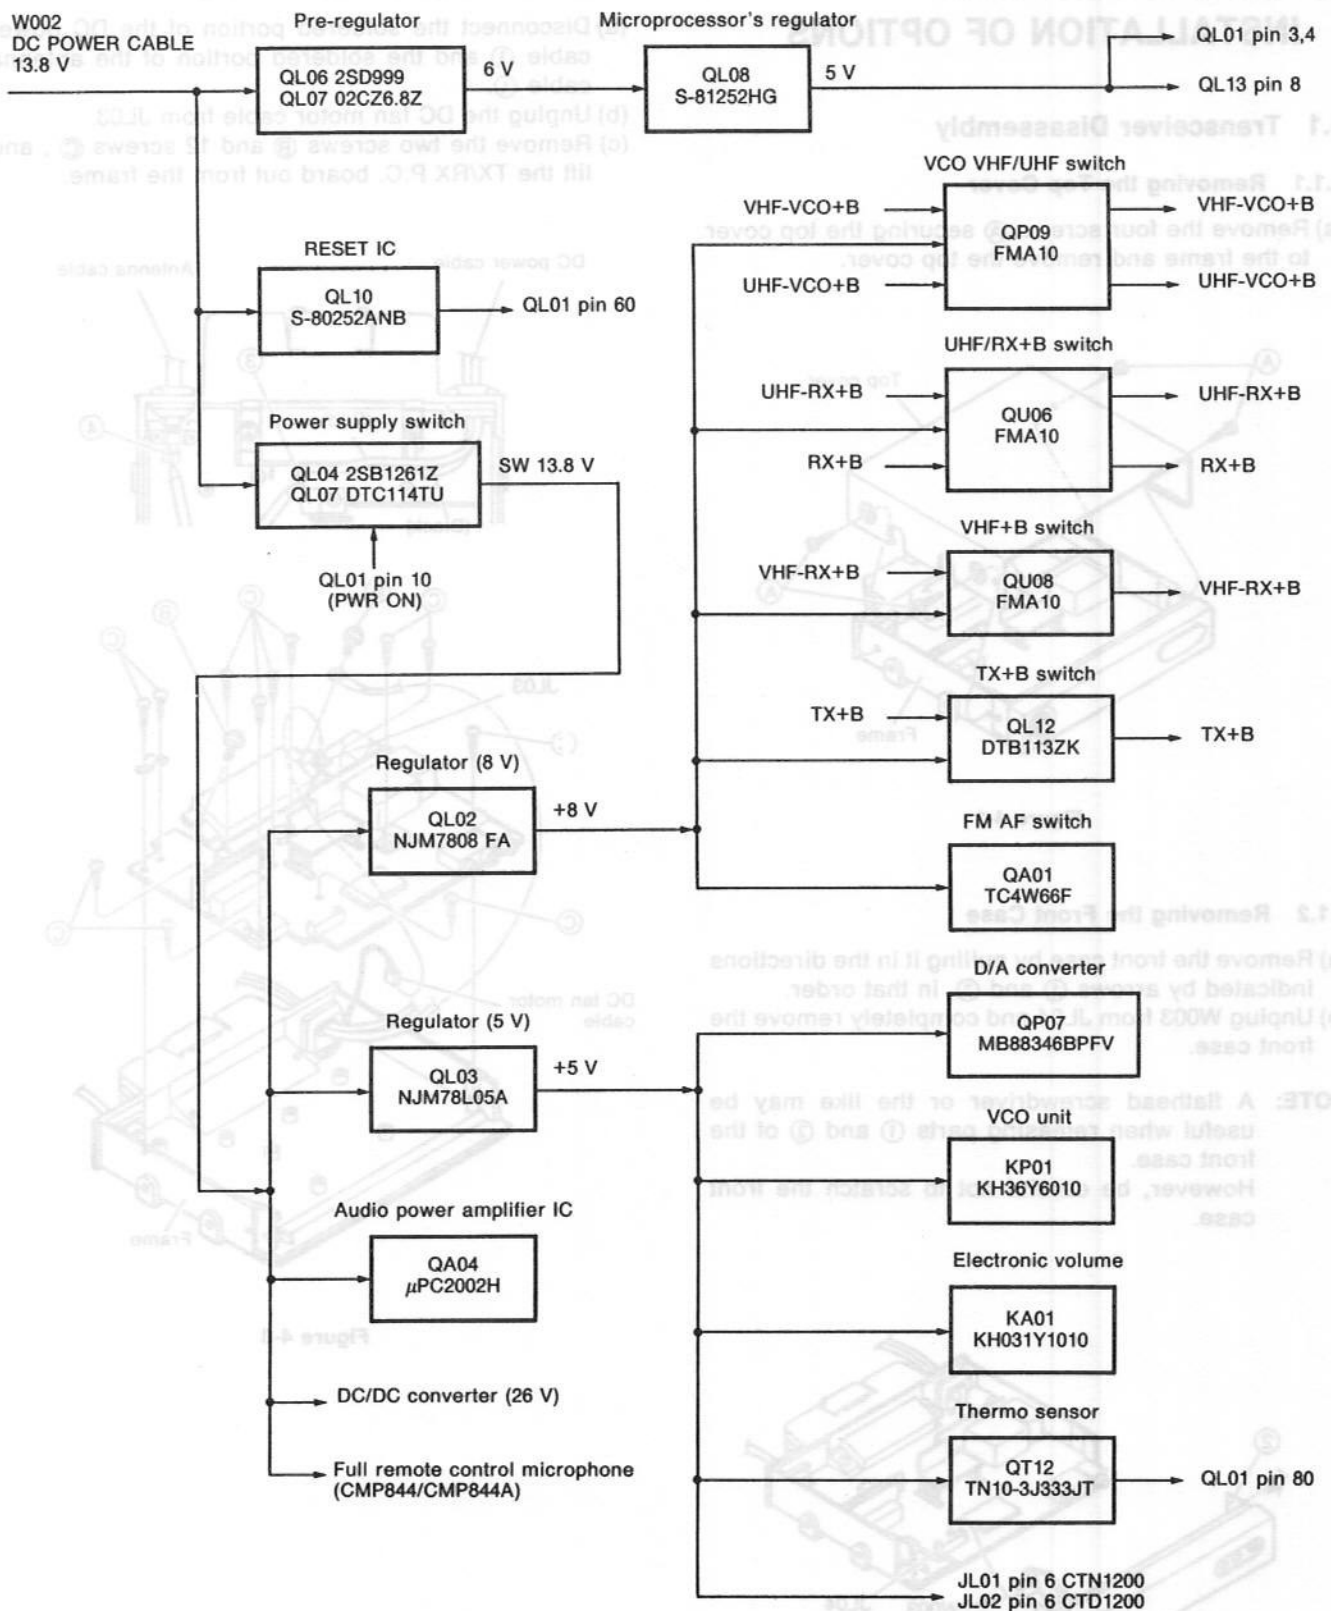

Figure 3-9 Power Supply Block Diagram
- Figure 3-9 is a block diagram of the power supply block.